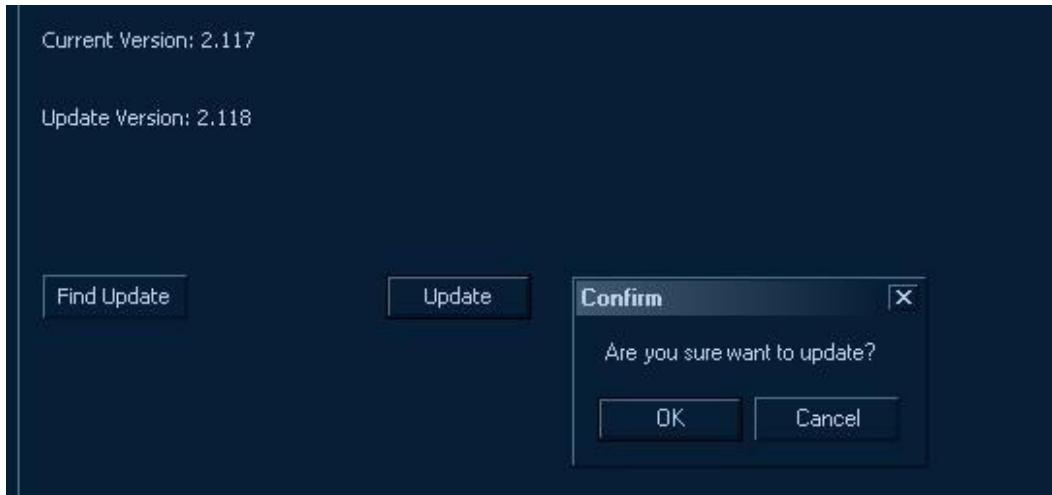

Figure10-4 Update confirmation.
- The system will ask if the operator is sure want to update. Scroll the trackball to “OK” and press “Set” key to confirm if yes, as in Figure 10-4.